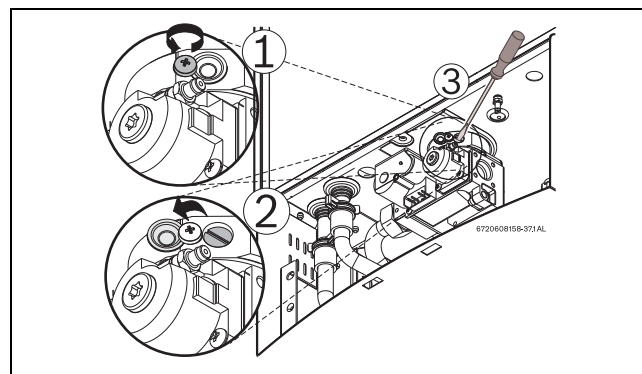

Fig. 65 Adjusting P1 CO2 level
- Loosen yellow painted Phillips screw (1) and cover should rotate down (2) revealing a recessed brass slotted screw. Fig.65.